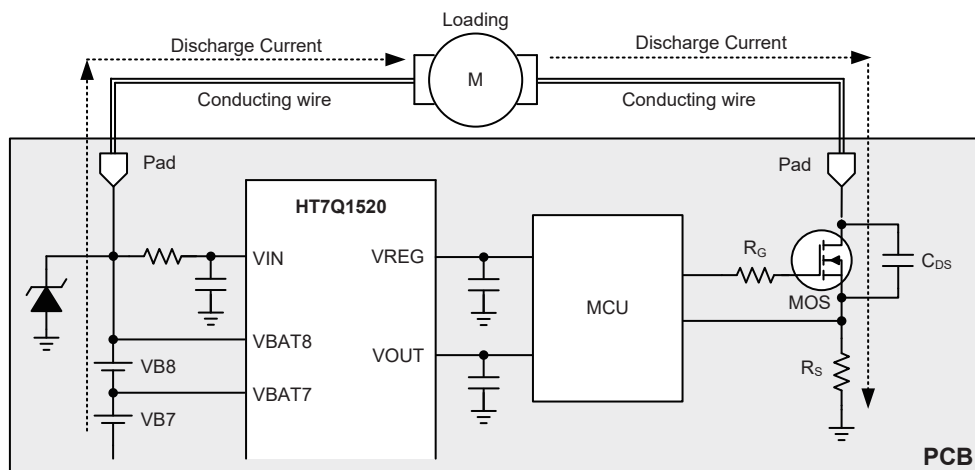

Fig 6. Simplified Typical BMS System Discharge Path Diagram
3. Add a capacitor (C_{DS}) between the drain and source nodes of the MOS switch as shown in Fig6. The recommended capacitance is $0.1\mu F$ to $0.22\mu F$.